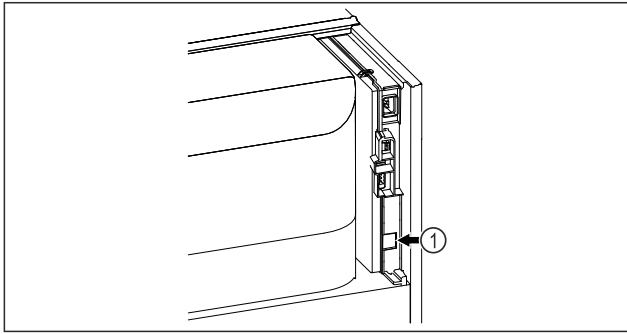

Fig. 73
- ❑ SmartModule Fig. 73 (1) is in use.